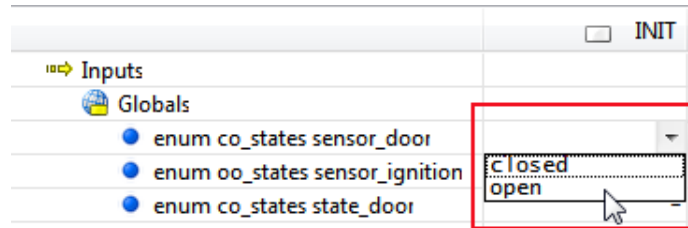

Figure 5.79: Inline editor of the view Test Data of 'Scenarios'
- Doubleclick the value cells in the INIT column to open the inline editor (see figure 5.79).